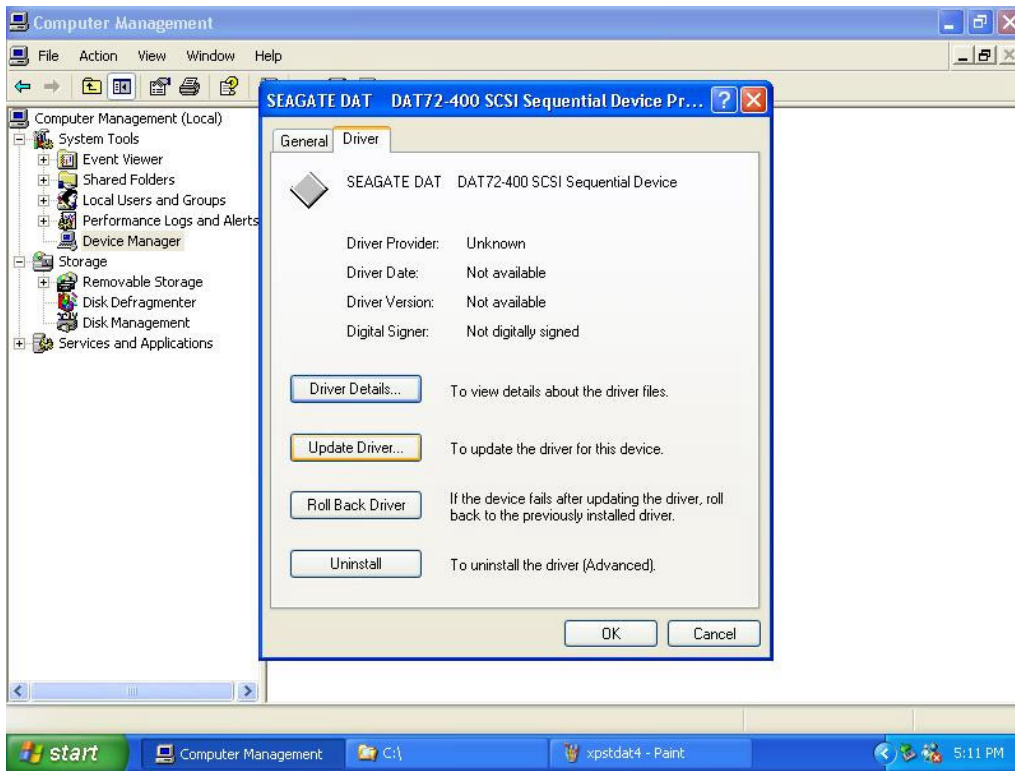

Figure 17. Information Box
4. Click the **Driver** tab. The information box in Figure 17 on page 34 appears.